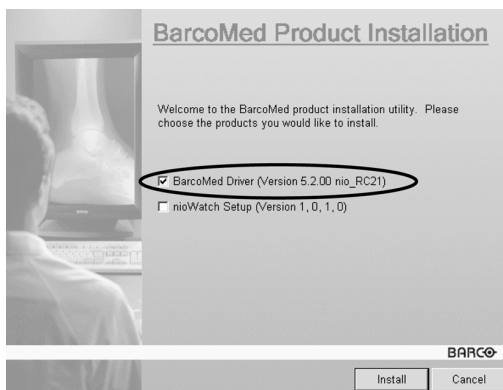

Figure 45
3. To update the driver, clear the checkbox next to **“NioWatch Setup”** (figure 45) and click **“Install”**.